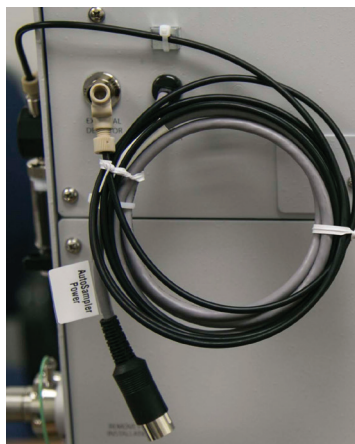

Figure 2-24 Power cable on the ACCQPrep
14. Power for the AutoSampler is provided by the ACCQPrep. On the rear panel of the ACCQPrep, the power cord is coiled and retained (Figure 2-24). Remove the retainer and route the power cable to the mating connector on the AutoSampler Module.